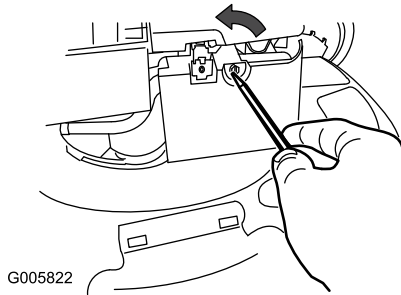

Figure 20
1. Use a screw driver to open the air-filter cover (Figure 20).